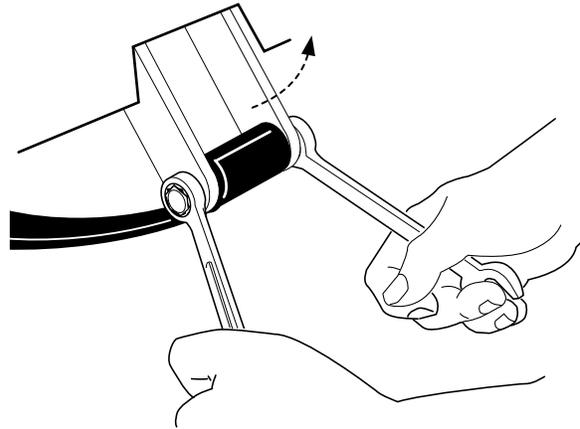

Figure 28-9 Detach Spring From Shackles
8. With a floor jack supporting the transaxle, remove lower spring shackle nuts and bolts. Rotate shackles up and away from springs (**Figure 28-9, Page 28-6**).